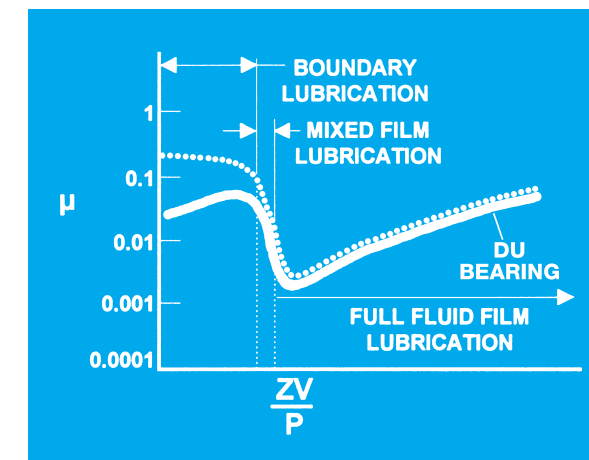

Figure 4-9. Frictional Characteristics of Lubricated DU Bearings
Figure 4-9 illustrates the relationship of the coefficient of friction and lubrication regime for a given sleeve bearing/shaft combination plotted as a function of fluid viscosity (Z), bearing pressure (P) and shaft speed (V). Plotted in dotted line is the classical lubrication curve based on conventional plain bearing materials such as bronze or babbitt; the blue curve is DU material. For boundary and part of mixed film lubrication regimes, DU is lower in friction than conventional bearing materials because of its low-friction PTFE/lead surface. The two curves are essentially the same under full film hydrodynamic lubrication and mixed film lubrication where a substantial part of the load is carried by a hydrodynamic fluid film.
As can be seen in Figure 4-9, DU material is particularly effective in the most demanding lubricated applications because of its inherent low friction and excellent wear resistance without lubrication. The following is a summary of application parameters where DU has successfully replaced conventional bearing materials and improved performance.